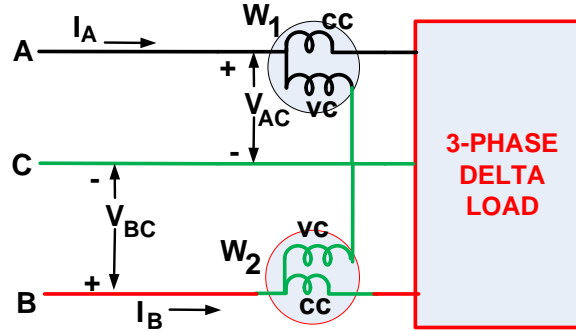

Fig. Q1(a)
- Fig. Q1(a) shows the connection of two wattmeters with the 3-phase load. The current  $I_A$  flows through the current coil of  $W_1$  and  $V_{AC}$  is the voltage sensed by the voltage coil. Wattmeter  $W_1$ 's reading will be the product of the voltage across its voltage coil ( $V_{AC}$ ), the current through its current coil  $I_A$  and the cosine of the angle between  $V_{AC}$  and  $I_A$ .
From Fig. Q1(b), the reading of wattmeter,  $W_1$ , will be